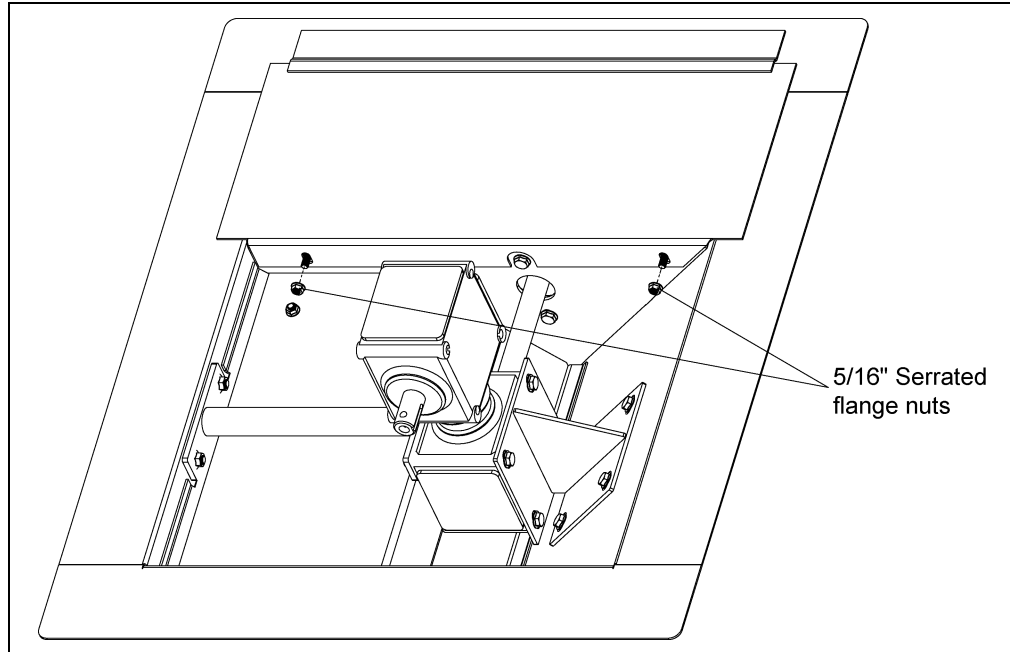

Figure 3A
1. Remove the two (2) 5/16" serrated flange nuts that retain the inspection cover as shown in Figure 3A.